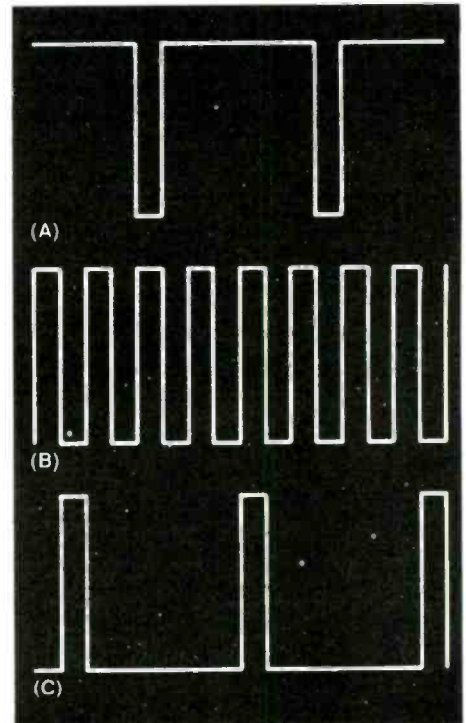

Fig. 5. Output waveforms for three different settings of the potentiometer (see text).
Shown in Fig. 5 are three extremes of V_a : (A) $V_a = +V$, (B) $V_a = 0$ and (C) $V_a = -V$. These traces represent very long, equal and very short duty cycles, respectively.